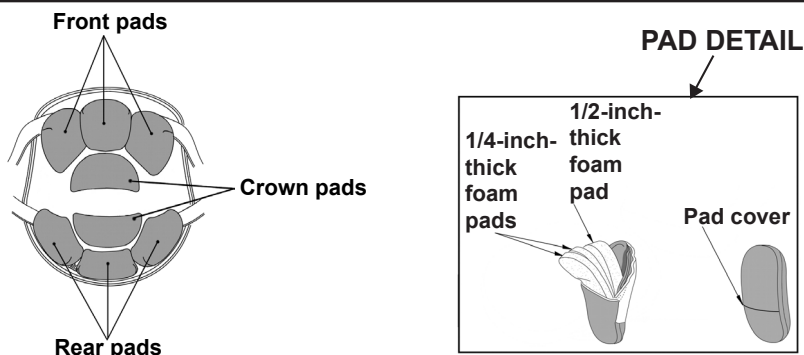

Figure 27. Pad Suspension Assembly (Adjustable)
1. Referring to **Figure 27**, remove the pads from the helmet, noting their position and orientation in the helmet.